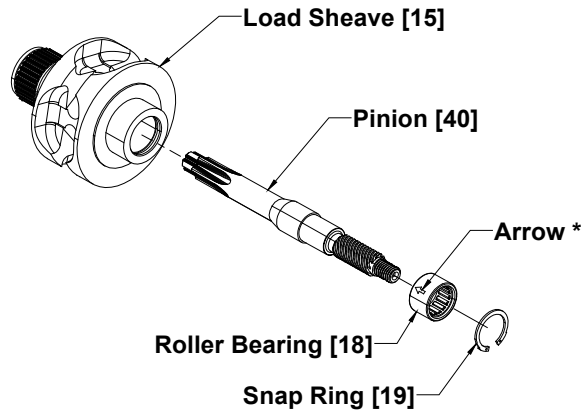

Figure 6-1 Load Sheave/Pinion Assembly
- Apply Harrington lubricating grease (Part No. ER2CS1951) or an equivalent to industrial general lithium grease, NLGI No. 0, to the bearing surfaces of the load chain links as indicated by the shaded areas in Figure 6-1. Also apply the grease to the areas of the load chain (shaded areas in Figure 6-1) that contact the load sheave. Insure that the grease is applied to the contact areas in the load sheave pockets.
***NOTE:** The arrow* on the outer side of the roller bearing should face the gear side. When inserting, use a screwdriver on the bearing and tap it with a rubber mallet. See Fig. 6-1.